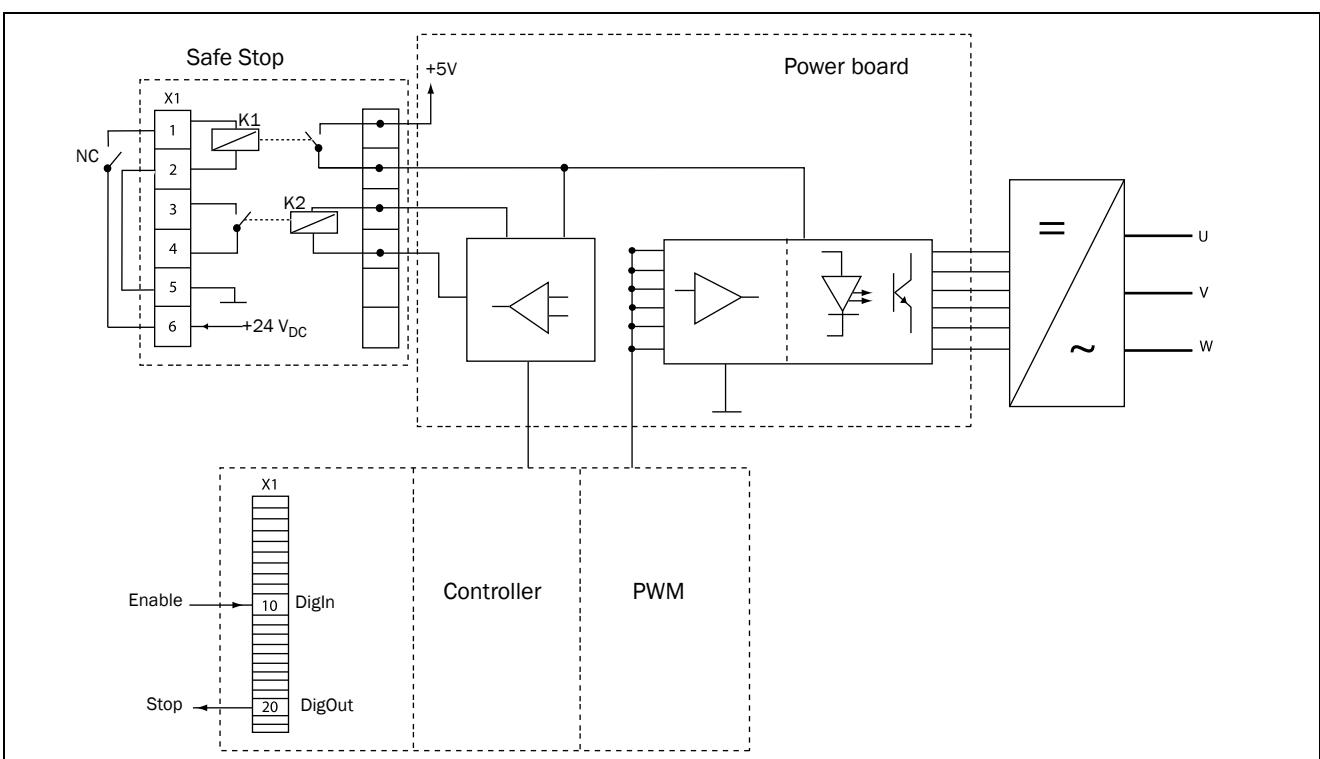

Fig. 152 Safe Stop connection
- "Inhibit" input, terminals 1 (DC+) and 2 (DC-) on the Safe Stop option board should be made active by connecting 24 VDC to secure the supply voltage for the driver circuits of the power conductors via safety relay K1. See also Fig. 152.
- High signal on the digital input, e.g. terminal 10 in Fig. 152, which is set to "Enable". For setting the digital input please refer to "11.5.2 Digital Inputs [520]" on page 159.